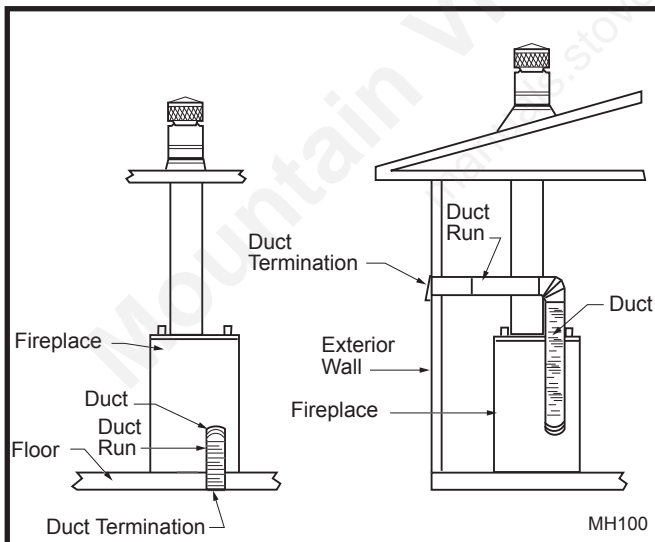

Fig. 11 Typical duct installations.
Duct run must be limited to a maximum distance of 20' (3 m) from the fireplace pipe collar to duct termination. This will provide the least restriction to air flow. No more than two 90° elbows can be used. Duct run may be horizontal, vertical inclined downward or upward, or any combination of these. Upward vertical duct runs must be limited in height to one (1) foot above the fireplace before being run horizontally and terminated out-of-doors. (Fig. 11)